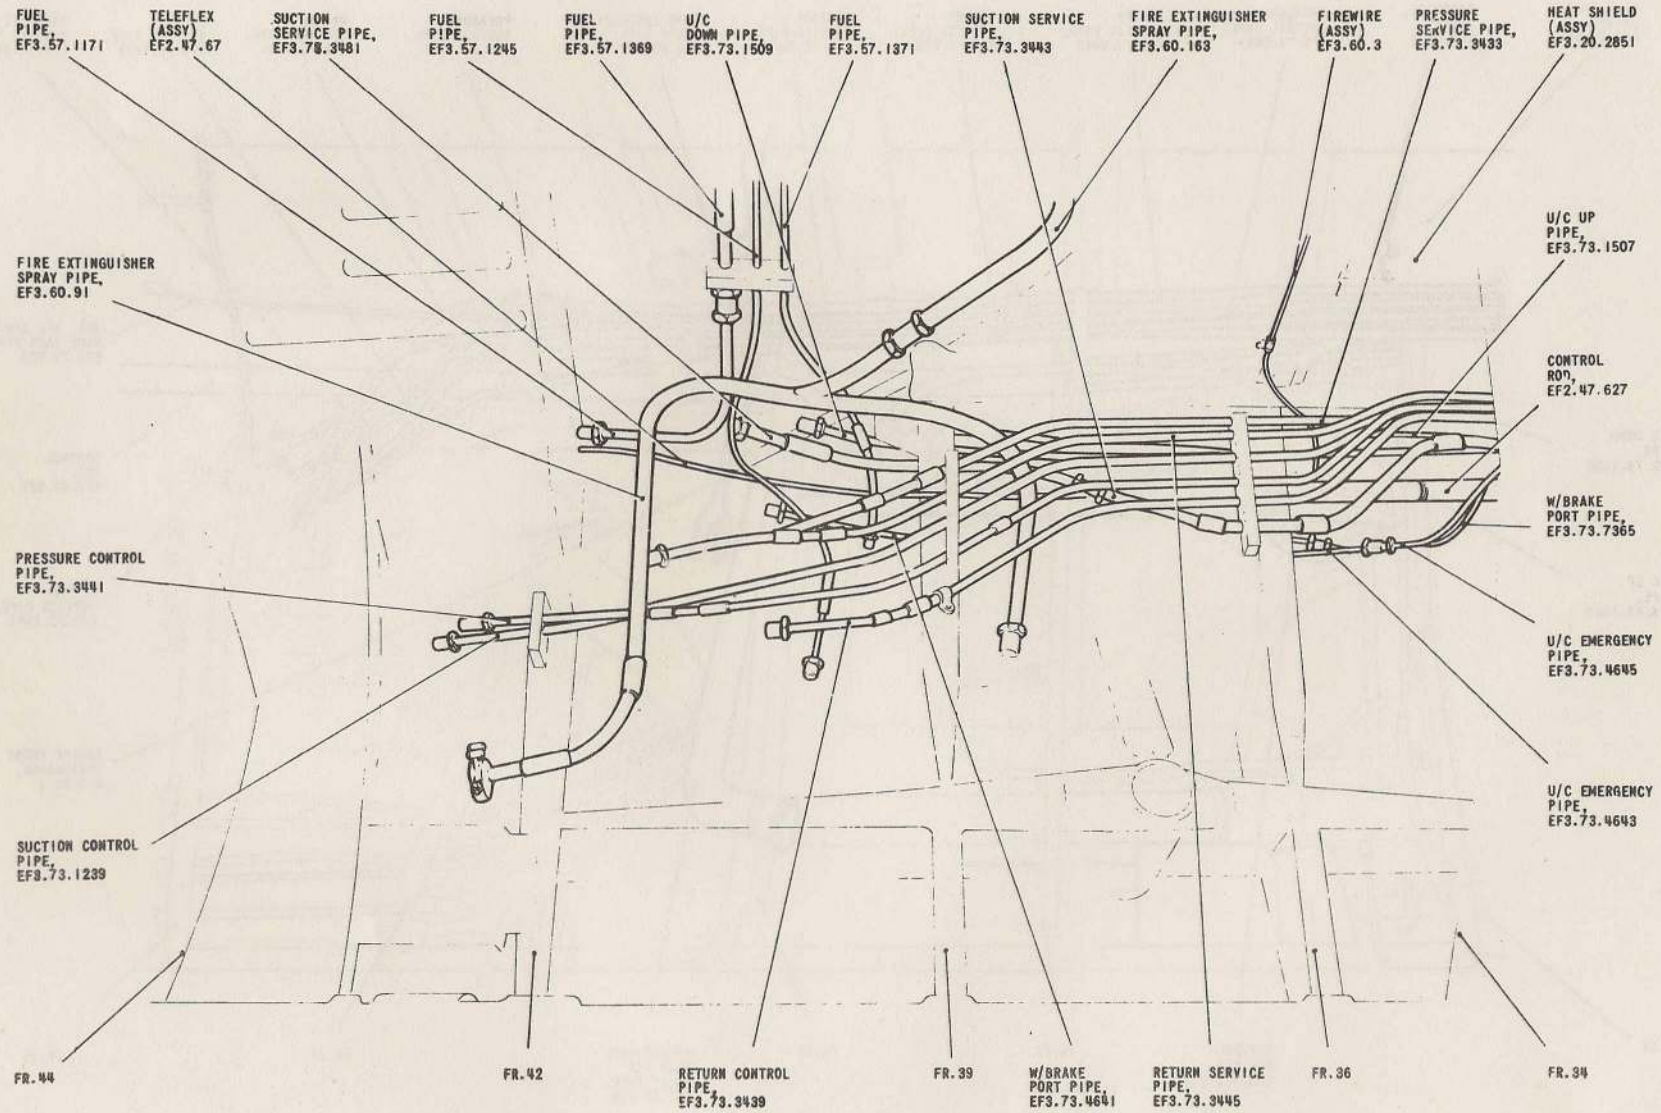

FIG. 8. EQUIPMENT IN NO.1 ENGINE BAY-PORT (1)
- (13) Disconnect the systems and remove the components in No.1 engine bay, port and starboard, (*fig.8, 9, 10 and 11 respectively*).
- (14) Disconnect and remove the main-plane attachment bolts in the reverse order to the assembly instructions laid down in A.P.101B-1000-6, Part 1, *Chap.3*.